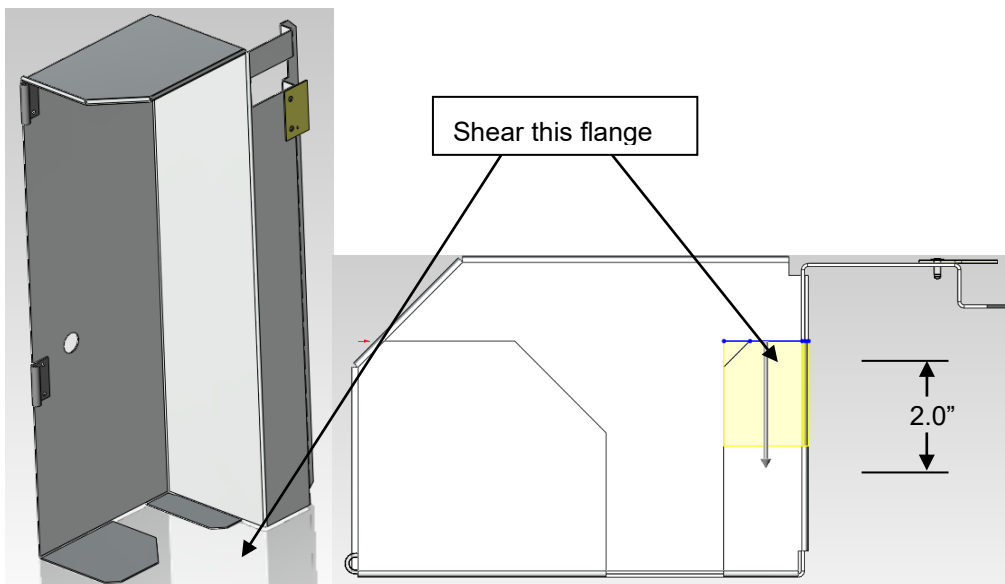

FIGURE 3
- Step #33** Rework coinage/DBV door – using sheet metal shears, shear away 2.00 inches from the bottom flange. See Figure 3 (Creates clearance for the new coin return chute assy)